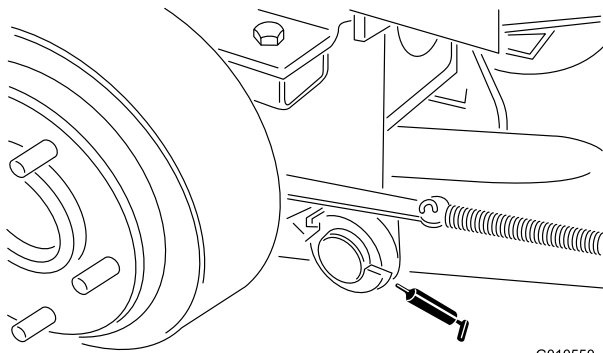

Figure 16
- right and left lift arm pivot pins (Figure 16)